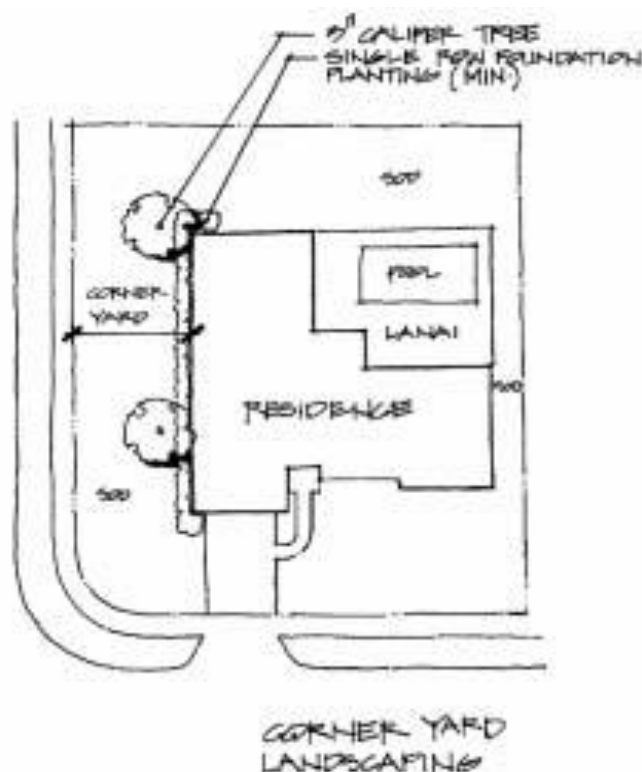

FIGURE 11
1. At least one (1) solid row of one (1) gallon sized hedge shall be planted along the building side which faces the street. **Figure 11**
2. Any hedge planted along the corner yard, along the house as exhibited in Figure 11, shall be to a maximum height of eight feet (8').
6. Corner lot landscaping shall adhere to the site plan as shown in Figure 11.